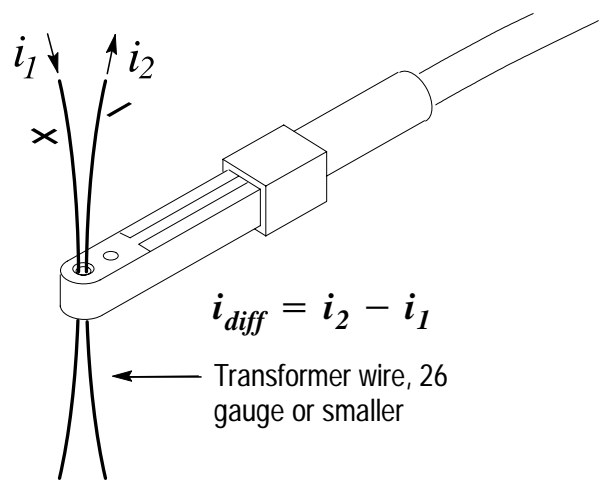

Figure 3: Using two wires to measure differential current
- c.** For measuring the difference between two signal currents, use two wires with opposing polarities. (See Figure 3.) Fine, thinly insulated wire such as transformer wire is best for this application.